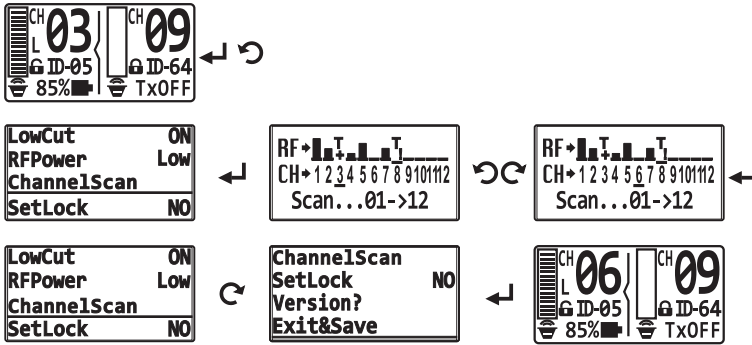

Fig. 24
7. Setting Channel Scan, see Fig. 24: